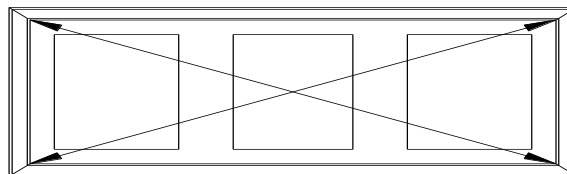

FIGURE 1.
- b) A diagonal measurement must be within 1/8” of being equal before fastening top of frame. (Figure 1). A frame out of square can result in a door sag or improper closing.
- Seat the self closing wheel into hinge housing (Kwik Torque). The weight of the door will now be resting on the frame. (Figure 1)